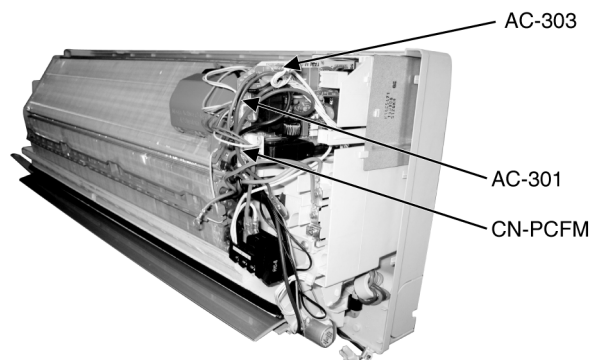

Fig. 7
- Release the AC-301 (BRW) connector. (Fig. 7)
- Release the AC-303 (WHT) connector. (Fig. 7)
- Release the CN-PCFM connector. (Fig. 7)